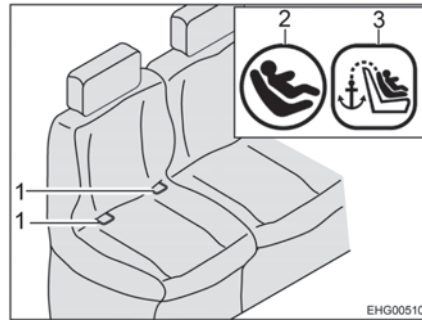
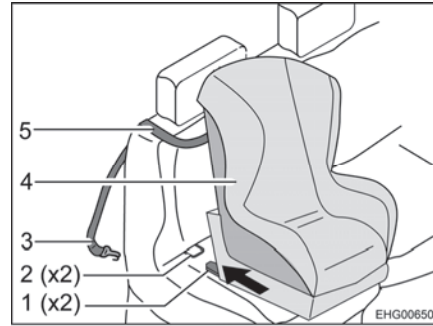

Fig. 12 Seat with Isofix
Fig. 13 Fastening with top tether
- Guide the top tether strap (Fig. 13,5) over the back cushion (between the headrest and the seat belt deflector).
- Hook the fixing hook (Fig. 13,3) onto the attachment point on the back of the vehicle seat.
- Have the connectors (Fig. 13,1) snap into the retaining clips (Fig. 12,1 and Fig. 13,2). While doing this, a distinctive click must be heard.
- With a strong jerk, check if the child seat (Fig. 13,4) is firmly connected.